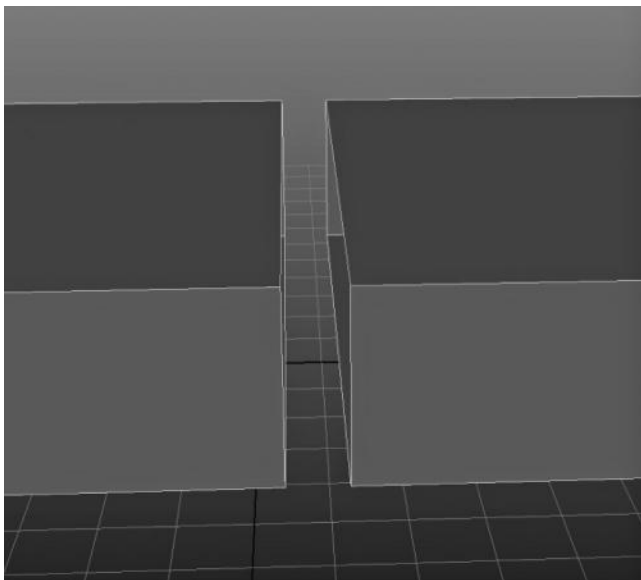
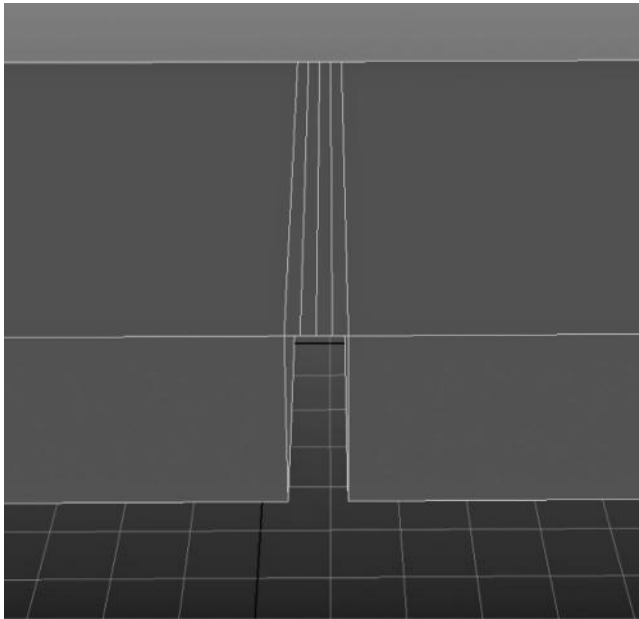

FIGURE 2.39 The two top edges are selected for bridging.
FIGURE 2.41 You can choose to have multiple segments for a bridge.
**Bridging** is the creation of a “bridge” polygon between two selected edges. It allows the user to connect to parts of a model that are not previously connected. You can see in Figure 2.39 I have selected two edges for bridging. In Maya, you cannot create a bridge unless it is a border edge, which means that it has a side without a connection to a face. For this reason, you can clearly see that both of the inner faces of the cubes have been deleted for the purpose of this demonstration. Some other software programs do not have this limitation, and you may bridge any two selected edges together. In Figure 2.41, you can see that multiple divisions are possible with the bridging operation, as are other adjustments such as taper and twist.